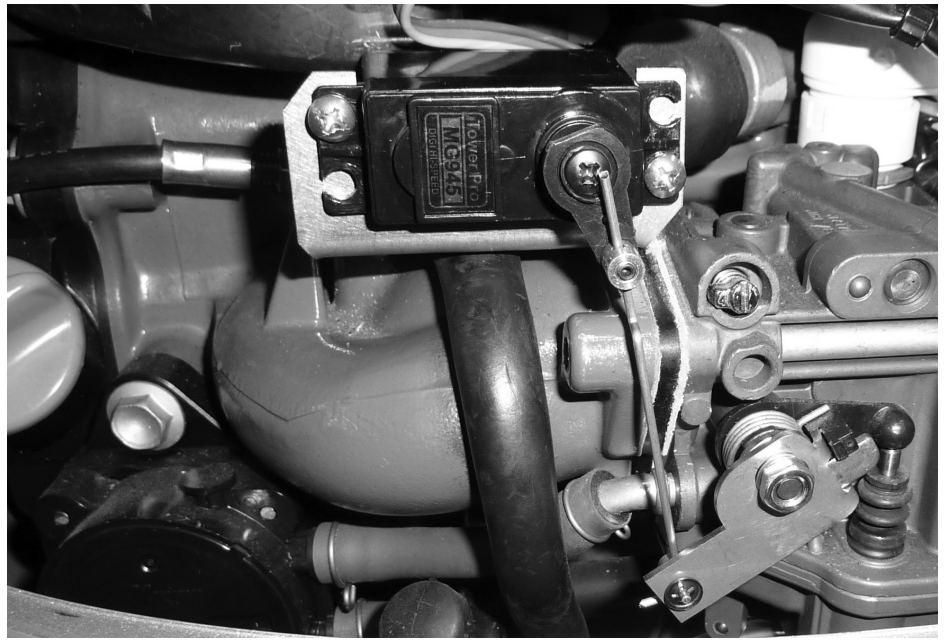

Figure 5
- Cut excess rod that is sticking out of brass servo arm fitting - **leave approximately 1/2 inch to allow for adjustments if needed - see Fig 5.**